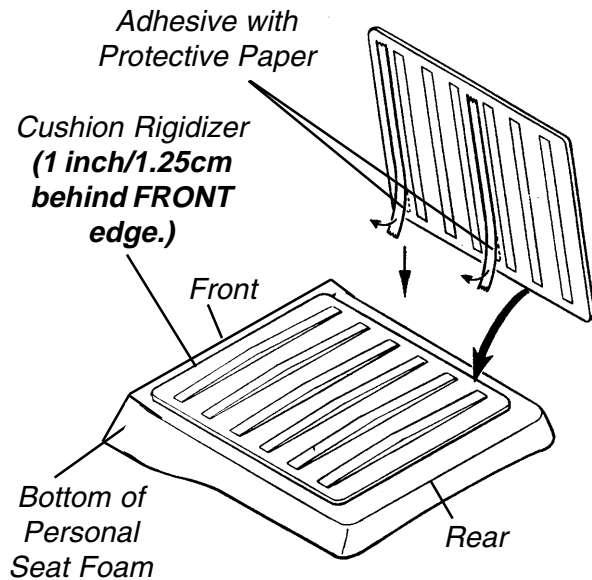

FIGURE 2 - INSTALL RIGIDIZER
3. Place the surface of the Cushion Rigidizer with adhesive tape against the bottom of Personal Seat cushion (FIGURE 2).
4. Place Cushion Rigidizer 1 inch (1.25cm) from **FRONT** edge of the Personal Seat Foam while centering it on the left and right sides (FIGURE 2).
6. After marking the placement area, remove the protective paper from the adhesive on the the Cushion Rigidizer and install Rigidizer onto the bottom (**underside**) of the Personal Seat Foam (FIGURE 2).
7. Press down firmly to adhere the Cushion Rigidizer to the Personal Seat Foam (FIGURE 2).